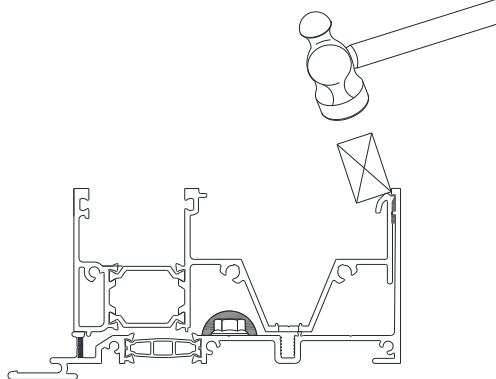

Figure 75: Optional Method to Snap Sill to Sill Receptor
- 20.6 Verify that the Sill has snapped into the Sill Receptor. If not, gentle pressure can be added to assist the engagement. *Figure 75* is an optional technique to connect the Sill to the Sill Receptor. Use care when applying pressure so as not to deform or break the Sill. Clean excess Sealant from the Sill Receptor.
- 20.13 Verify that the Sill has snapped into the Sill Receptor. If not, gentle pressure can be added to assist the engagement. *Figure 75* is an optional technique to connect the Sill to the Sill Receptor. Use care when applying pressure so as not to deform or break the Sill. Clean excess Sealant from the Sill Receptor.